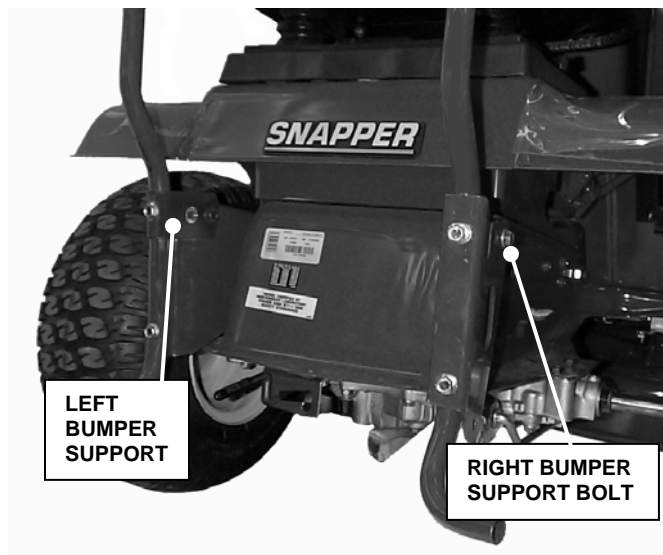

FIGURE 1.3
- C. Install left Bumper Support to the left Bumper Bracket. Align bottom hole in Bumper with hole in Bumper Bracket. Insert (1) 5/16-18 x 1-3/4” Flange Lock bolt and secure with (1) 5/16-18 Flange Lock hex nut. **Do not tighten at this time.** Align hole in left Bumper Support with top hole on Rear Bumper as shown and insert (1) 5/16-18 x 1-3/4” Flange Lock bolt. Secure with (1) 5/16-18 Flange Lock hex nut. **Do not tighten at this time.** See Figure 1.3.
- D. Align slotted hole in left Bumper Support with hole in Bumper Bracket and insert (1) 5/16-18 x 1-3/4" Flange Lock bolt. Tighten (4) Bumper bolts securely. Place 5/16-18 Flange Lock hex nut on left Bumper Support bolt and tighten securely. Tighten right Bumper Support bolt securely. See Figure 1.3.